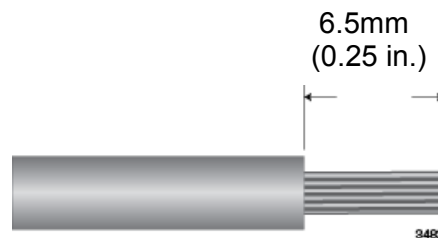

Figure 29. Strip Power or Alarm Wire
1. Strip 6.5mm (0.25 in.) of insulation from the ends of each of power and the alarm wires with a wire insulator stripper. Refer to Figure 29.